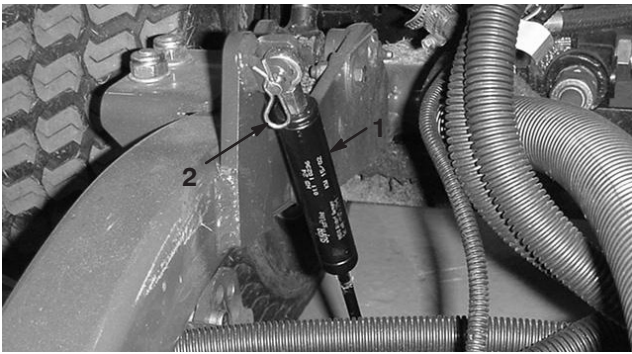

Figure 75
2. Remove the hairpin cotter securing dampers to lift arms (Fig. 75). Pivot damper toward deck housing.